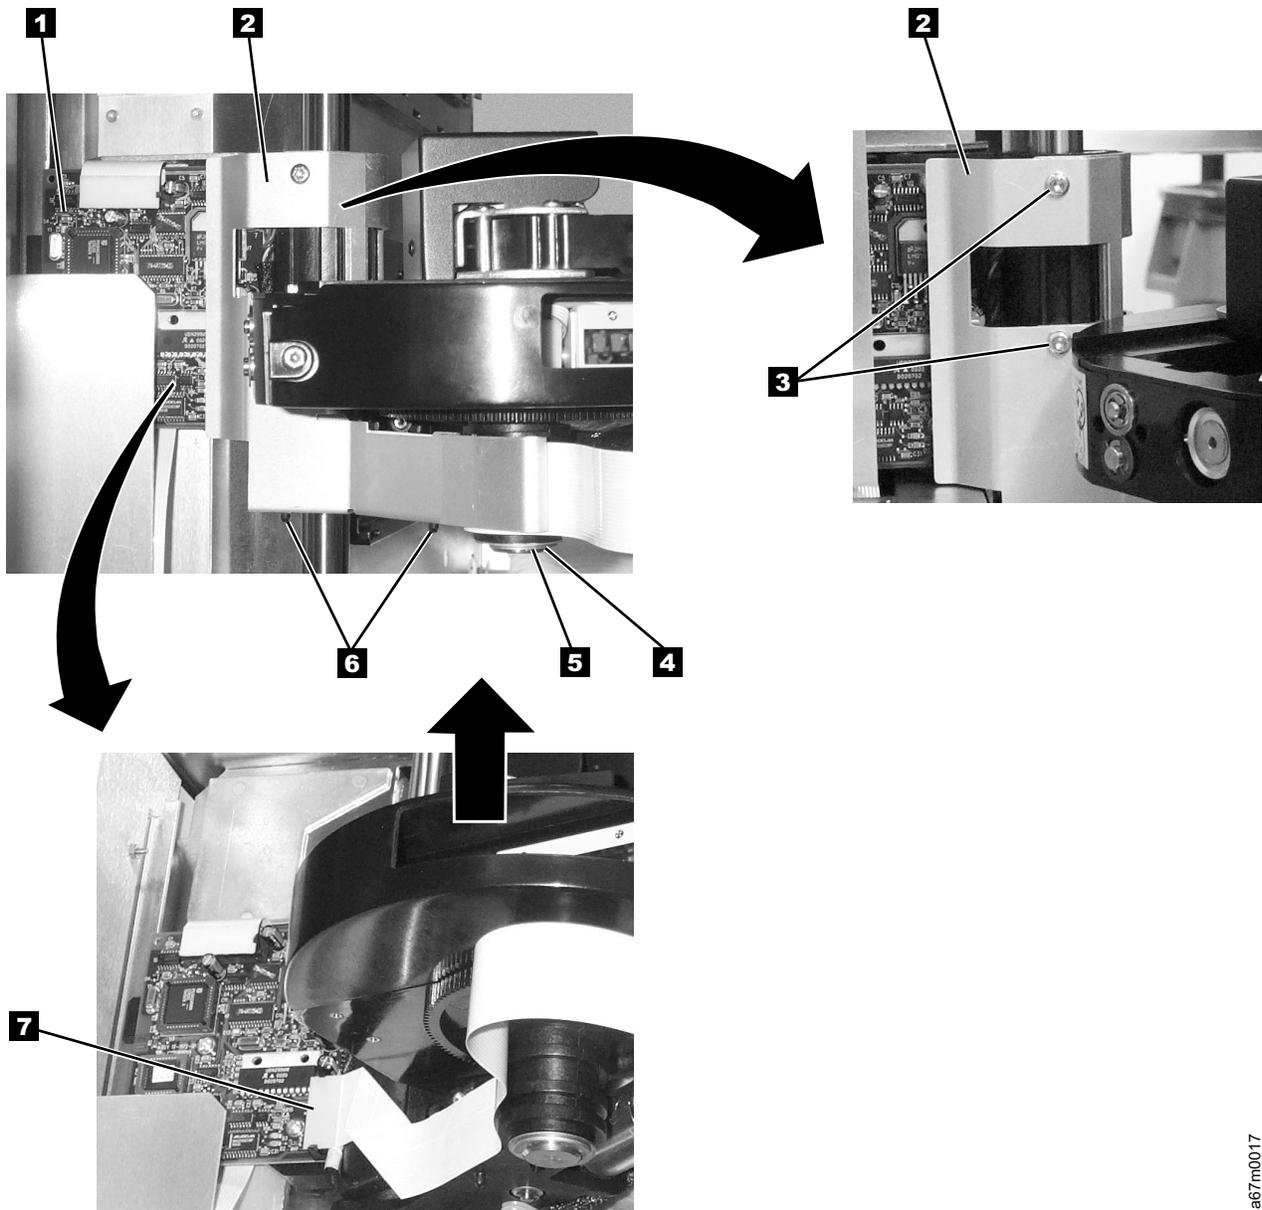

Figure 7-5. Picker Assembly Removal and Replacement
See Figure 7-5 on page 7-7 for locations of the components in the following procedure:
5. See Figure 7-5 on page 7-7 for step 5 through step 9. Lift the Picker Assembly and position it in the middle of the Y-shaft for easy access to its components.
- | **Note:** See Figure 7-5 on page 7-7. Before attaching the flex cable cover with the Torx screws, raise the picker assembly and position the cover so that the two pins on the base casting are centered in the holes **6**. Now tighten the Torx screws. Be sure to install the ground strap, and note that the eyelets of the ground strap are of different sizes.